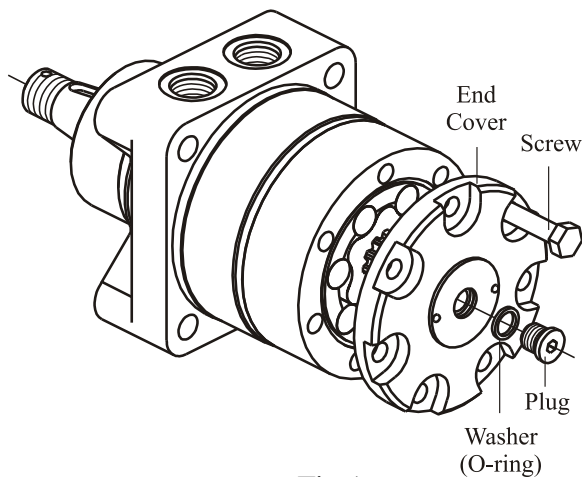

Fig.1
2. Unscrew screws using S17 torque wrench. Remove washers (see Figure 1).
17. Carefully place end cover on roll-gerotor set. (see Fig.1).